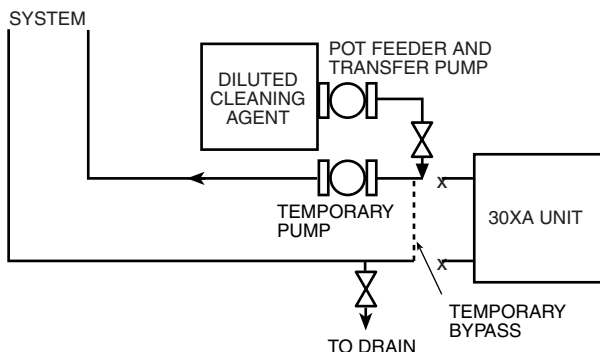

Fig. 57 — Typical Set Up for Cleaning Process
1. Install a temporary bypass around the chiller to avoid circulating dirty water and particulates into the pump package and chiller during the flush. Use a temporary circulating pump during the cleaning process. Also, be sure that there is capability to fully drain the system after cleaning. See Fig. 57.